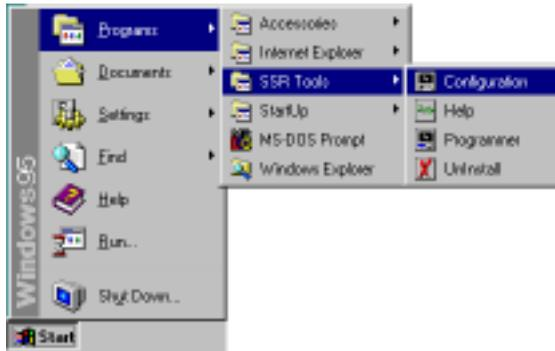

Figure 3.2: Selection of SSR Tool Icons for Windows 95/NT 4.0 and up
2. If an old version of SSR configuration software is installed on your PC, we recommend that you remove it before loading the new version. Click on the **Uninstall** icon in the **Start->Programs->SSR Configuration Tools** folder to remove the old software (Figure 3.2).